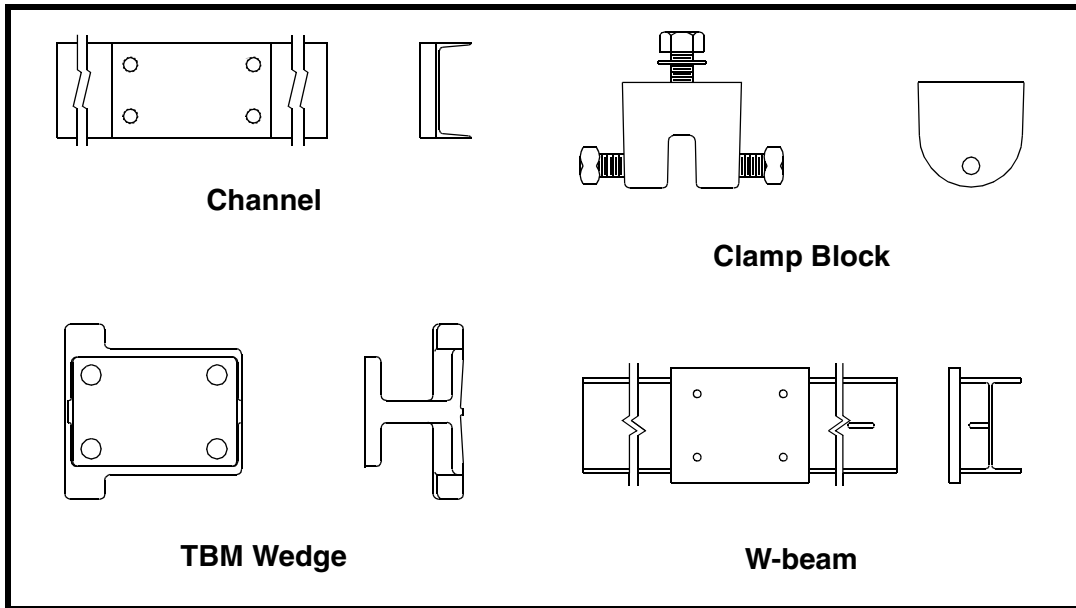

Figure 2. Channel, Clamp Block, TBM Wedge, and W-beam Mounts (Top and Side Views)
2. See Figure 2. If using Martin® Channel Mount, W-beam Mount (or equivalent), or T-beam to mount vibrator/impactor onto structure, do the following:
- d. If installing vibrator/impactor on hopper with wedge mount already in place, use TBM Wedge (see Figure 2) or equivalent to mount vibrator/impactor. Mount female half of wedge rigidly to beam extending at least 3/4 the slope length.
4. Install vibrator/impactor onto Channel Mount, W-beam Mount, clamp blocks, or TBM wedge (see Figure 2) as follows: